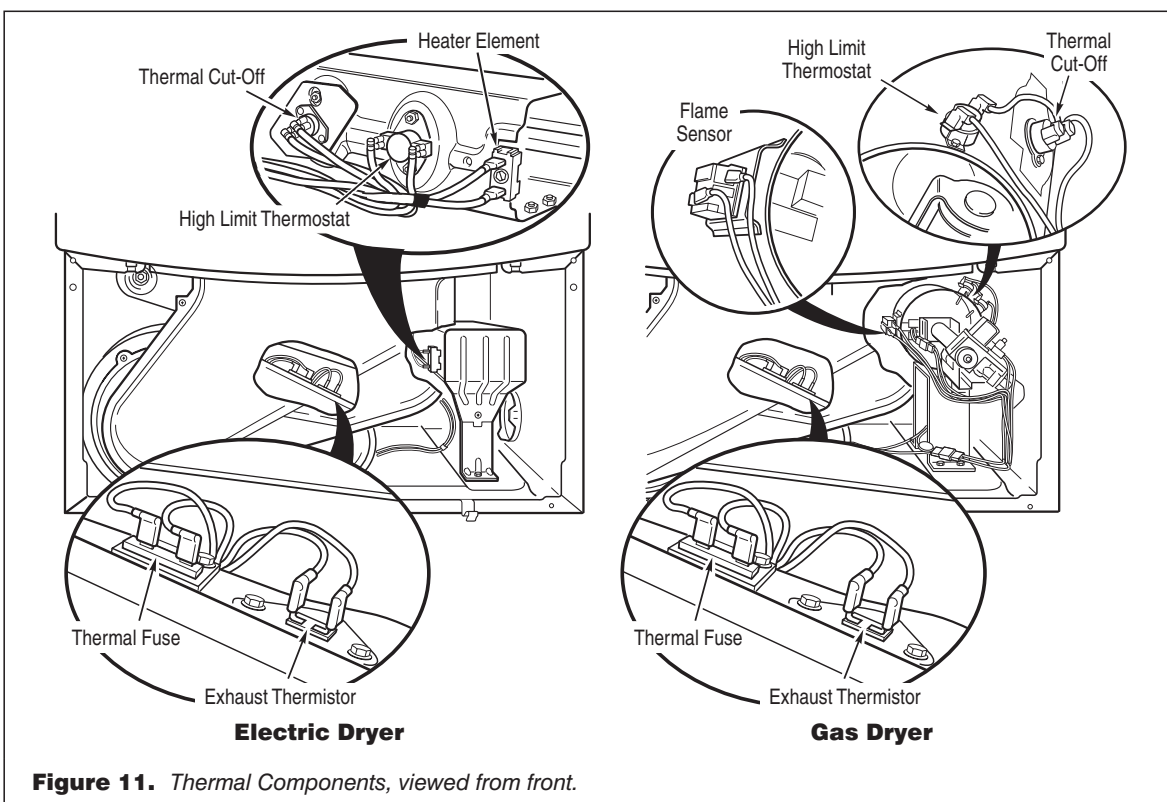

Figure 11. Thermal Components, viewed from front.
Locate the components using figure 11, page 7.
5. Locate the high limit thermostat. See figure 11. Measure the continuity through it by connecting the meter probes on the red wire and blue wire terminals.
- Check wire connections at the machine control electronics and thermistor. See Accessing & Removing the Electronic Assemblies, page 10, and for thermistor location see figure 11.
- Access the thermal fuse by first removing the toe panel. See Removing the Toe Panel, page 10; and for thermal fuse location see figure 11, page 7.
- Using an ohmmeter, check the continuity across the thermal fuse. See figure 11 for location.
- Using an ohmmeter, check the continuity across the thermal cut-off. See figure 11, page 7 for location.